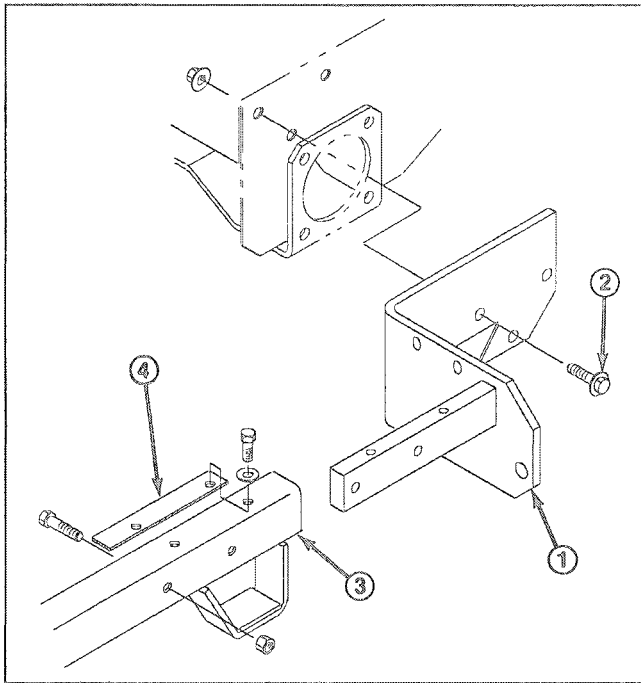

Figure 2
1. Align left and right angle bracket mounting holes with appropriate mounting holes in traction frame. Secure each bracket to frame with (3) 1/2 – 13 x 1" lg. flange screws and 1/2 – 13 flange locknuts (Fig. 2). Mount bottom flange screws with locknuts to the outside. Torque fasteners to 60–80 ft.-lb.
2. Align carrier frame mounting holes with mounting holes in angle brackets, while positioning shim between top of angle bracket and carrier frame, and aligning mounting holes (Fig. 2).
3. Secure each side with (2) 3/8 – 16 x 1–3/4" lg. capscrews and 3/8 – 16 locknuts. Locknuts must be positioned outside carrier frame.
4. Secure top of each carrier frame and shim to angle brackets with (2) 3/8 – 16 x 7/8" lg. capscrews and lockwashers. Torque fasteners to 240–320 in.-lb.